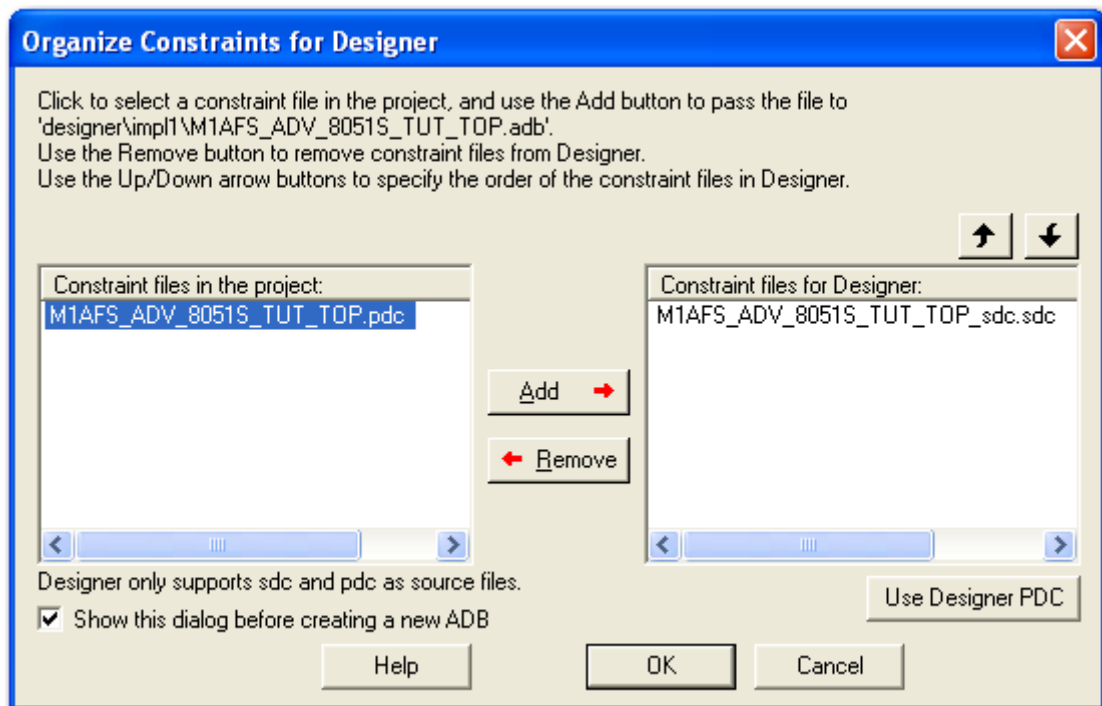

Figure 4-2 · Organize Constraints for Designer
4. The **I/O Attribute Editor** in the MultiView Navigator section of Designer can be used to assign signals to physical device pins. An alternative is to import a *.pdc file that already contains pin assignments for the design. This was done earlier in our project. This file was then selected for Designer to use when we organized the constraint files, as shown in Figure 4-2.